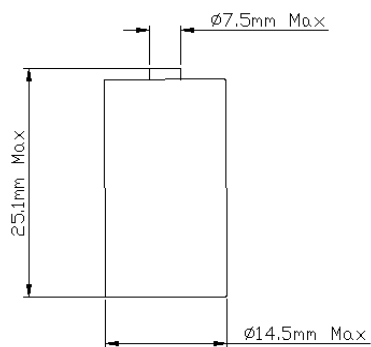

Fig 1
2.1 Dimensions: Fig 1.
The measuring instrument as specified 4.3 is used. The results should meet the requirement of fig1.